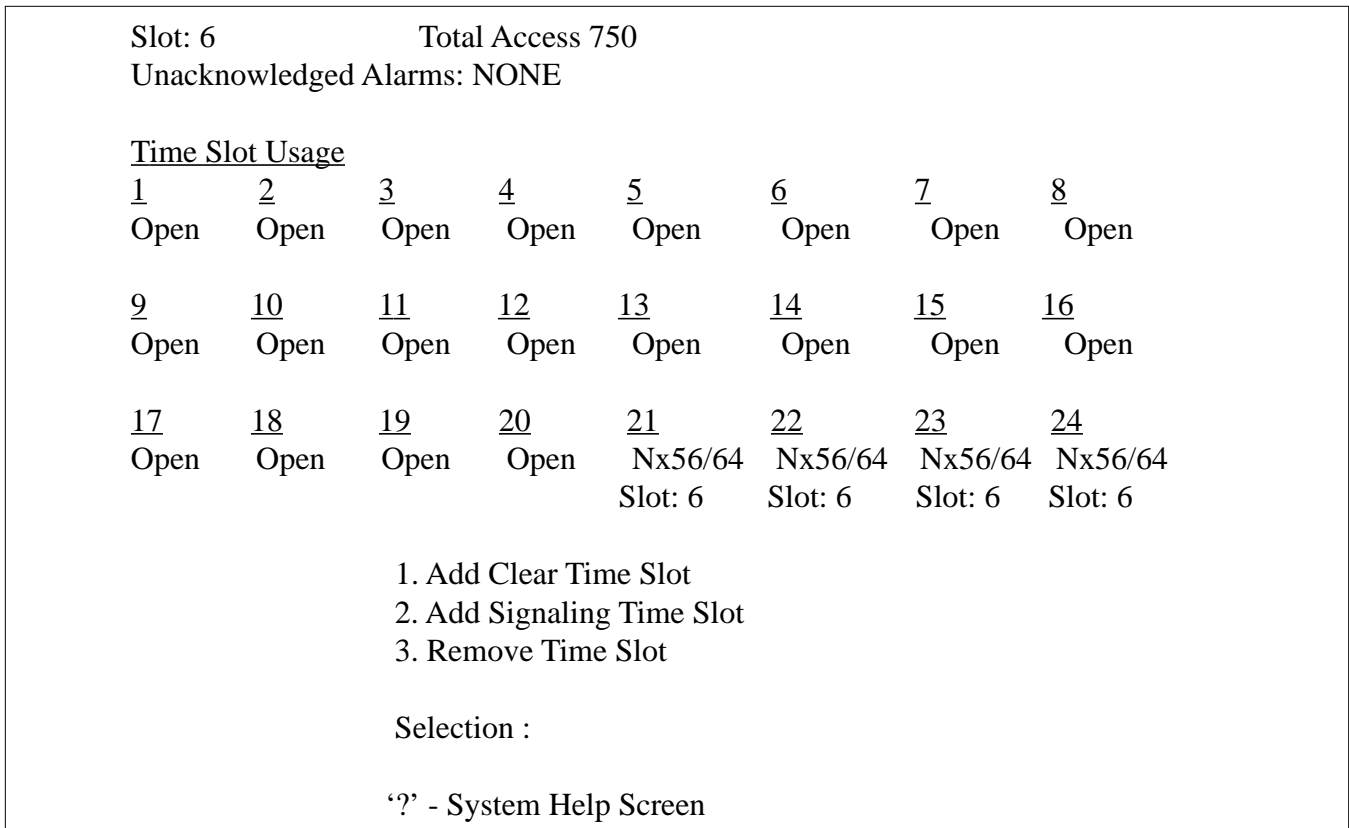

Figure 2. Time Slot Usage
1. Select Bank Controller (1), Provisioning (2), FT1 (2), FT1 Channels (4)
2. **Figure 2** shows the current time slots in use by the TA 750. Time slots labeled “open” may be added to the DSX-1 port. To add a time slot, enter 1 or 2 then the time slot to be added. If signaling should be passed from the primary T1 to the DSX-1 port, select 2. Otherwise, select 1 for clear channel operation.